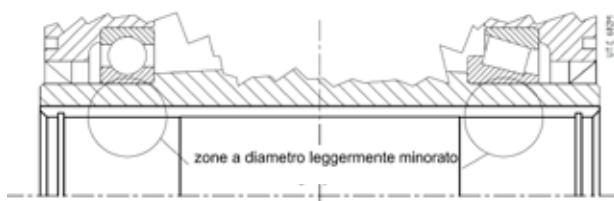

Fig. 7.8.1
**Warning!** Even if hollow low speed shaft are completely machined in H7 tolerance, a check through bott could reveal two zones with **slightly lowered** diameter (see fig. 5.6.1): this lowering is intentional and not affecting the **keying quality** – which is **improved** in terms of **duration** and **precision** – and is nt hindering the mounting of machine shaft end executed as shown in fig. 7.8.1.